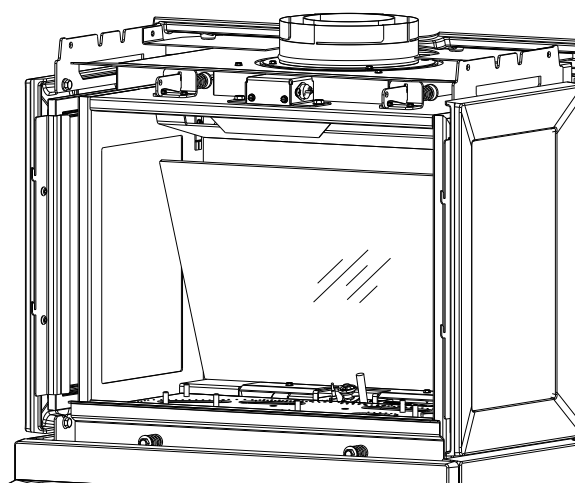

Figure 10.1. Install Rear Panel.
1. Set the Rear Panel, bottom first, behind the pilot assembly shield and resting on the rear shelf. See fig. 10.1.